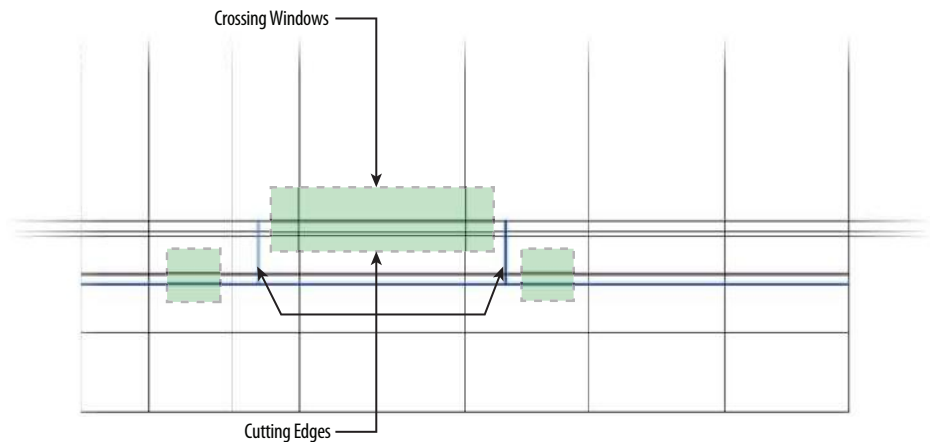

FIGURE 10.13 Defining the cutting edges and crossing windows to trim the roof extension
11. Start the TRIM command again, and select the two roof extension lines you just created along with the bottom roofline as cutting edges (see Figure 10.13).
12. Use a total of three crossing windows to complete the TRIM command, as shown in Figure 10.13.